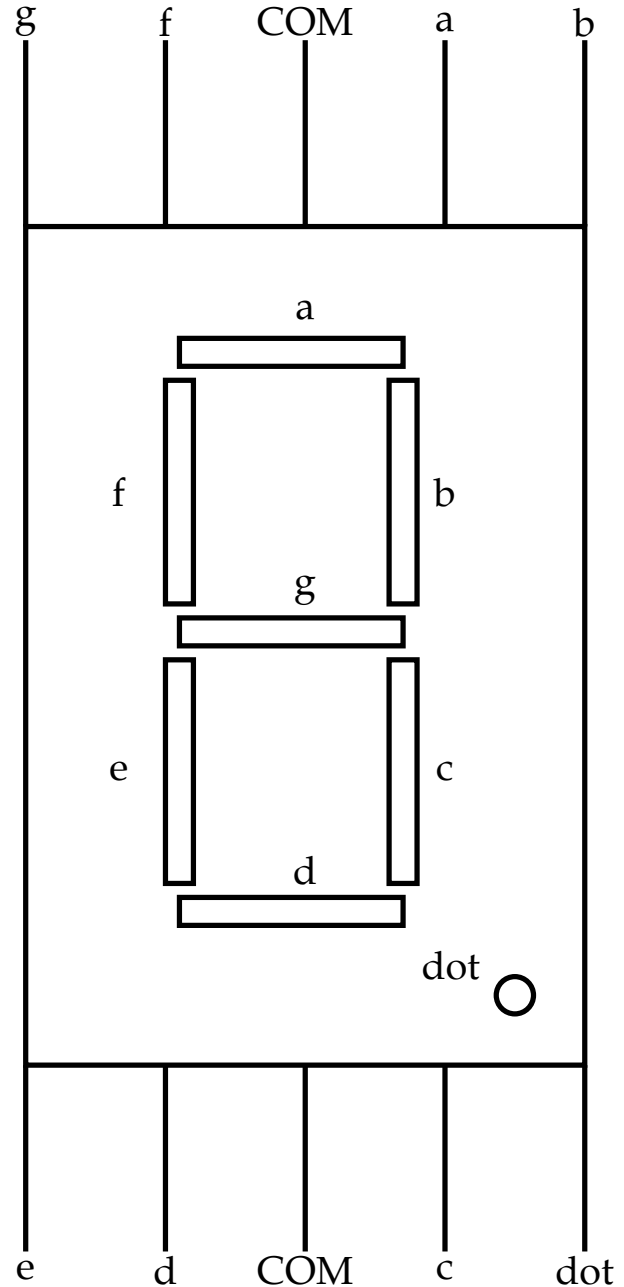

Fig. 2.1.1: seven segment display
2.1. The pin sheet for the Pygmy is available in Fig. 2.1.3. Connect the pins in the bank J5 of the pygmy with the seven segment display shown in Fig. 2.1.1 according to Table 2.1.1. Ensure that the COM pin is connected to 3.3V through a resistor.